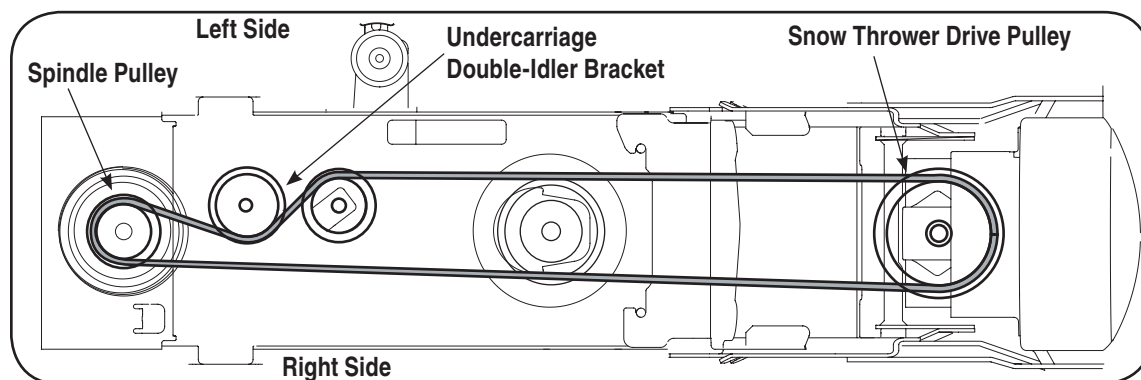

Figure 8-3
1. Attach and route the lower drive belt around the lower pulley on the spindle assembly, both pulleys on the double-idler bracket found beneath the undercarriage, and the drive pulley found on the rear of the snow thrower housing as illustrated in Fig. 8-3.